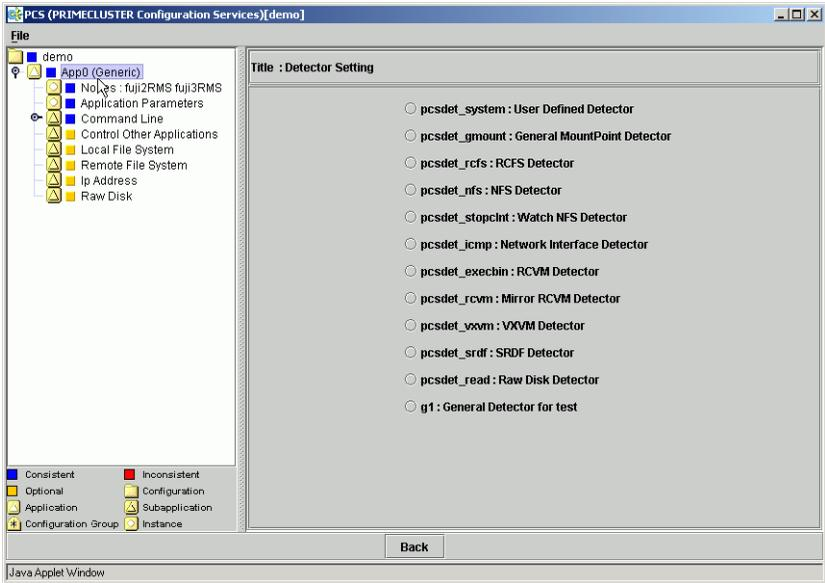

Figure 11: PCS Detector Details menu
- Click anything in the left-hand configuration tree and then select *Edit* → *DetectorSettings*. The *Detector Settings* window appears (Figure 11).